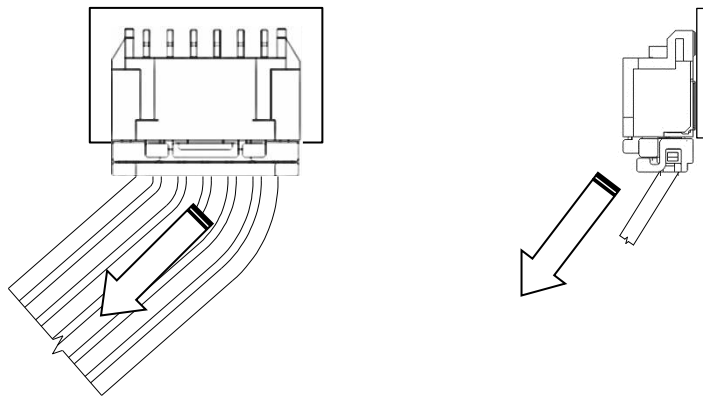

Fig.9-3-2 Condition wires are bent excessively or tension is added
- ※When pulling wires around inside actual machine, please do not use under the condition that wires are bent excessively or tension is added. That might be reason for terminal to be pulled out because force is added to terminal crimping zone or terminal insertion portion of receptacle by wire tension. Especially, please prevent force from being applied to only a few particular wires. **(Fig.9-3-2)**
- ※If you plan on special wiring inside customer's device, please contact us before using. **(Fig9-3-2/9-3-3 etc.)**